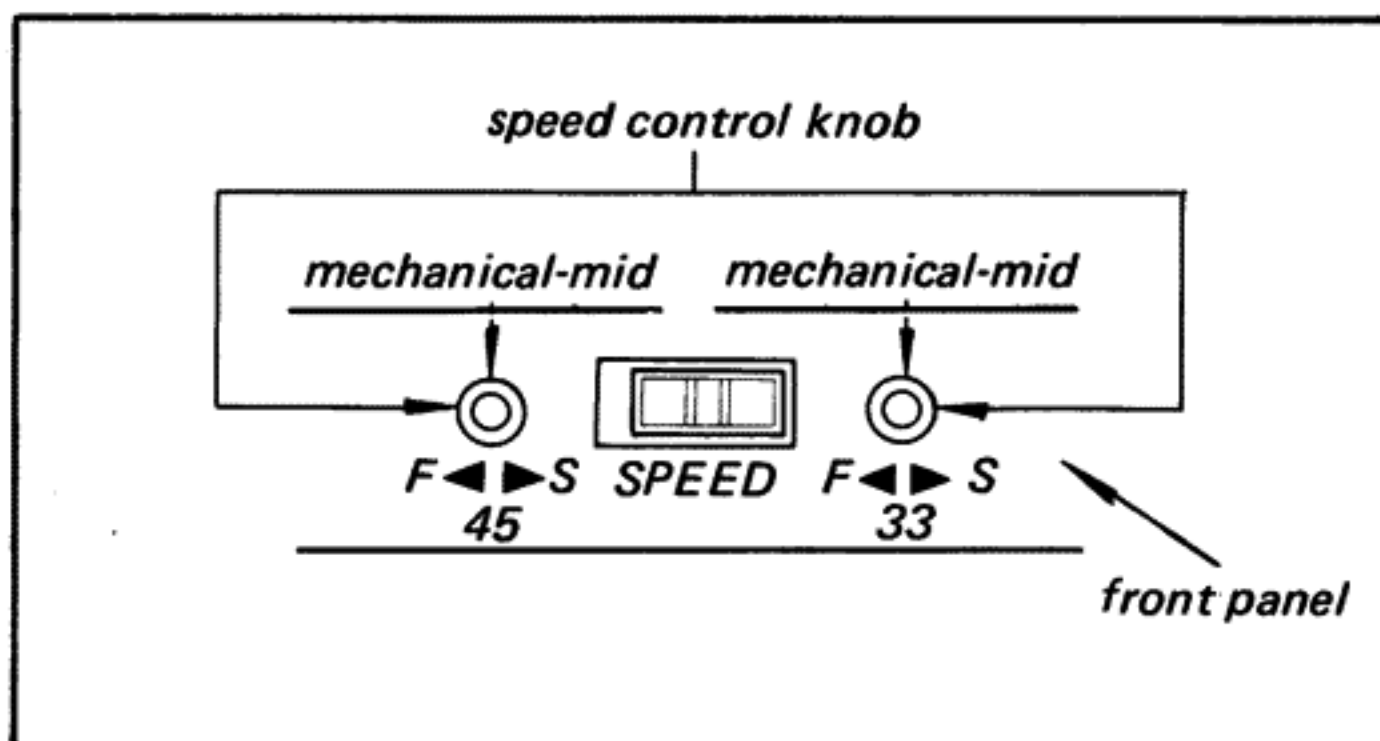

Fig. 3-5. Turntable speed adjustment
1. Turn the two speed control knobs to the mechanical-mid position as shown in Fig. 3-5.